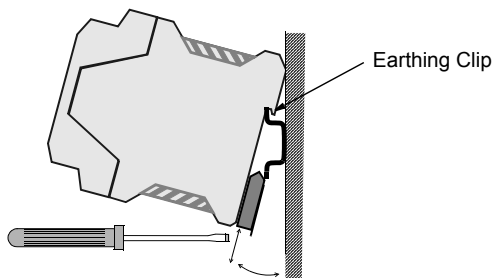

Figure 3-1 Mounting and removing the module.
- Module earth is connected to the mounting rail by means of an earthing clip (see Figure 3-1). The mounting rail onto which the option module is to be mounted must be earthed to a noiseless earth. If the rail is not mounted on a properly earthed base, a separate earthing conductor must be used. The conductor must be as short as possible and the cross-sectional area must be 6 mm² at least.
3. Push the module onto the rail. The module can be released by pulling the locking spring with a screwdriver (see Figure 3-1).
7. Push the module onto the rail. The module can be released by pulling the locking spring with a screwdriver (see Figure 3-1).